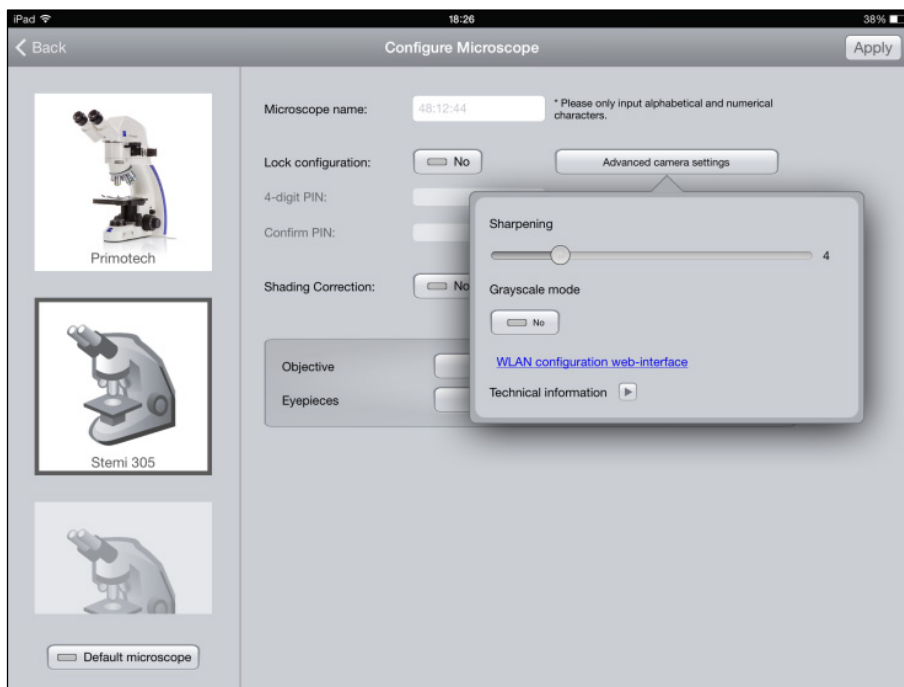

Fig. 8 Configuration page of Stemi 305 cam
- Start the App Labscope on the iPad (see Fig. 8).